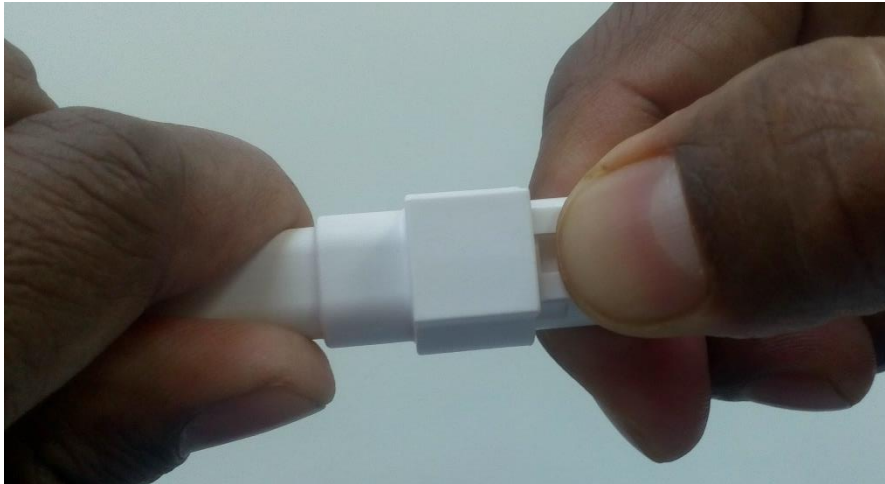
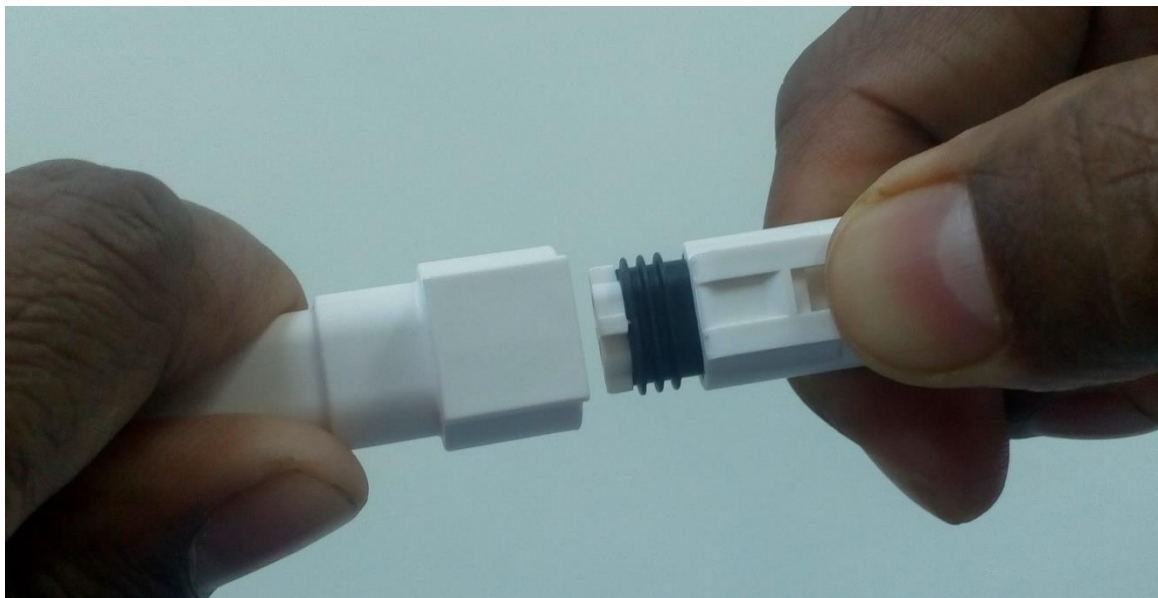

Figure 18
Figure 19
1. Press the latch lever on receptacle assembly to disengage the latch and pull the plug assembly as shown in figure 18 and figure 19.